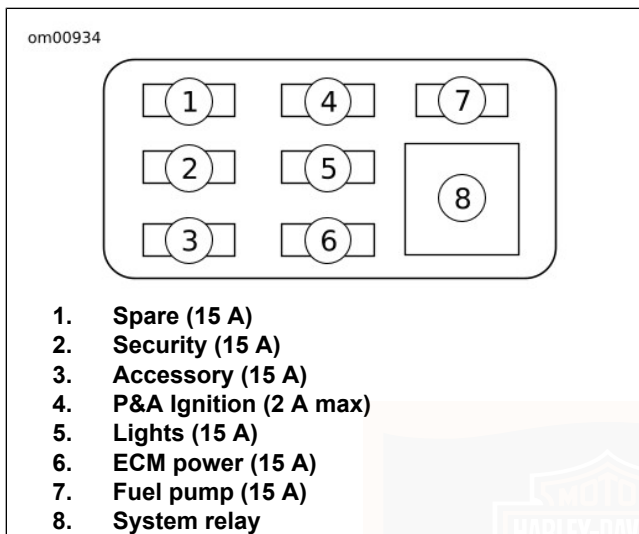

Figure 61. Rear Fuse Block
4. See Figure 61. Remove the suspect fuse and inspect the element. Replace the fuse if the element is burned or separated.